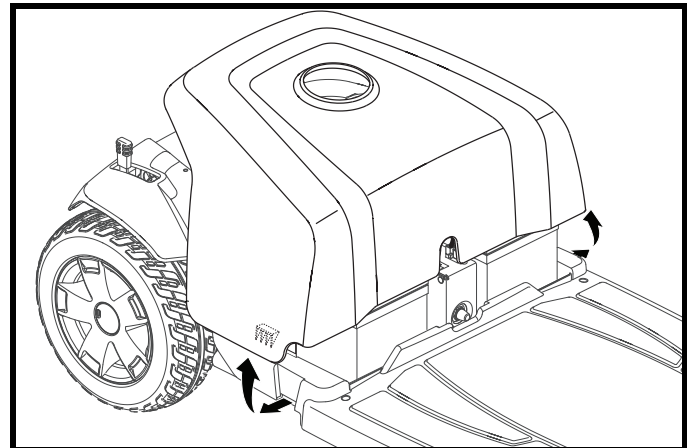

Figure 21. Battery Shroud Removal
2. Gently pull the battery shroud up and off of the scooter. **See figure 21.**